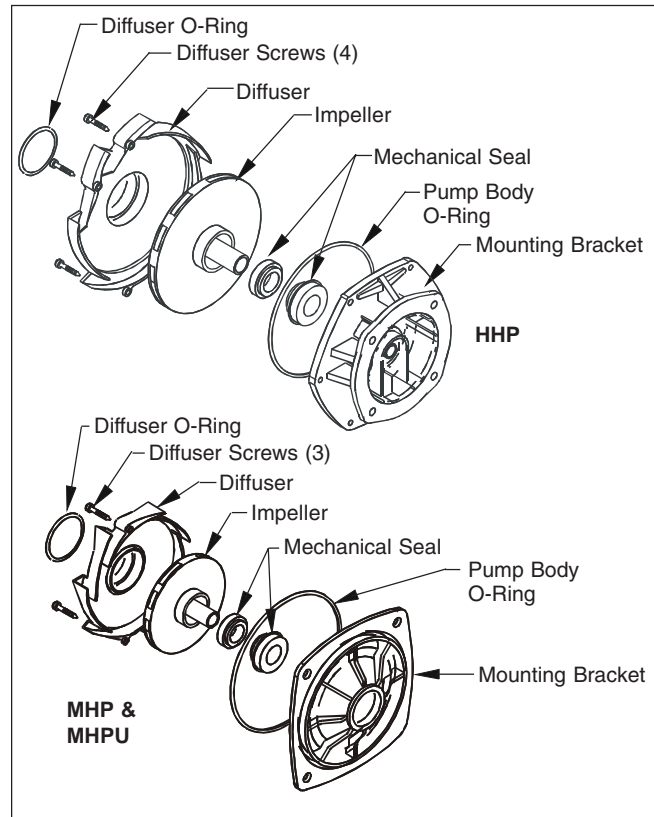

Figure 5. Mechanical Seal Replacement
- There is an o-ring located between the diffuser and the pump body. Place the diffuser o-ring over the diffuser's suction side (See Fig. 5).